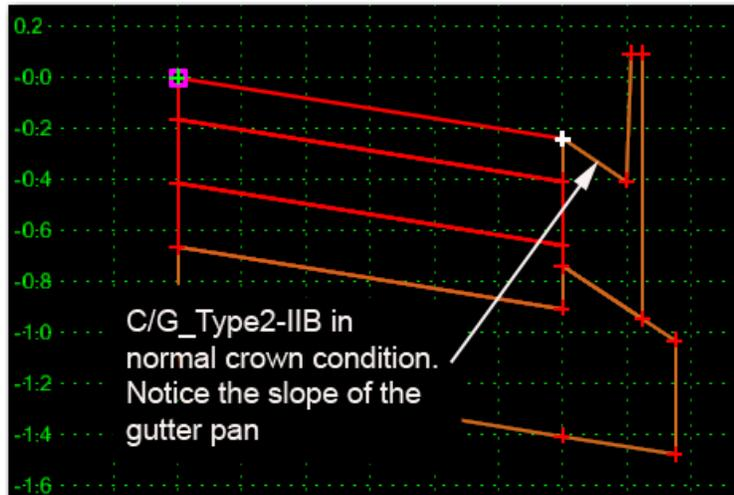

Figure 10: C/G_Type2-IIB Pavement Less Than 4%
- ◆ *Figure 10:C/G_Type2-IIB Pavement Less Than 4%* - 10 shows **C/G_Type2-IIB** in a normal cross slope condition and